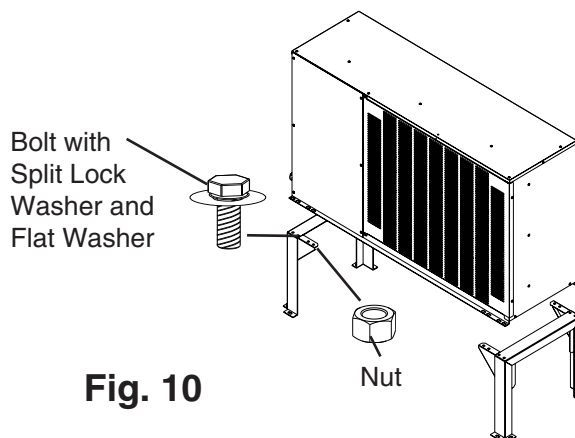

Fig. 10
- 1) Secure the legs to the remote condensing unit with the 16 bolts and nuts provided. See Fig. 10.